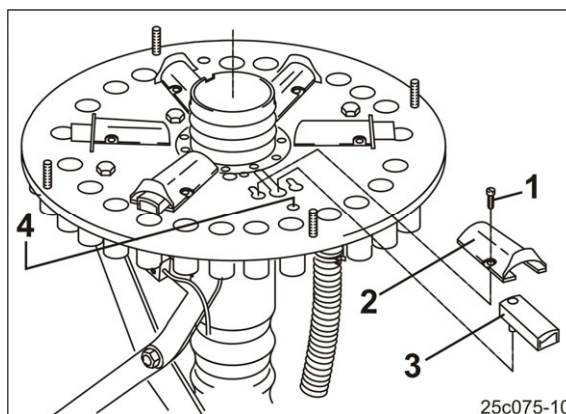

Fig. 231
8. Slacken the screws (Fig. 231/1).
9. Remove the slider tunnel (Fig. 231/2).
10. The slider (Fig. 231/3) is in the guide, as shown in the diagram.
11. Turn the sliders around (Fig. 231/3) and push them into the drill hole (Fig. 231/4).
12. Screw the slider tunnel (Fig. 231/2) onto the base plate.